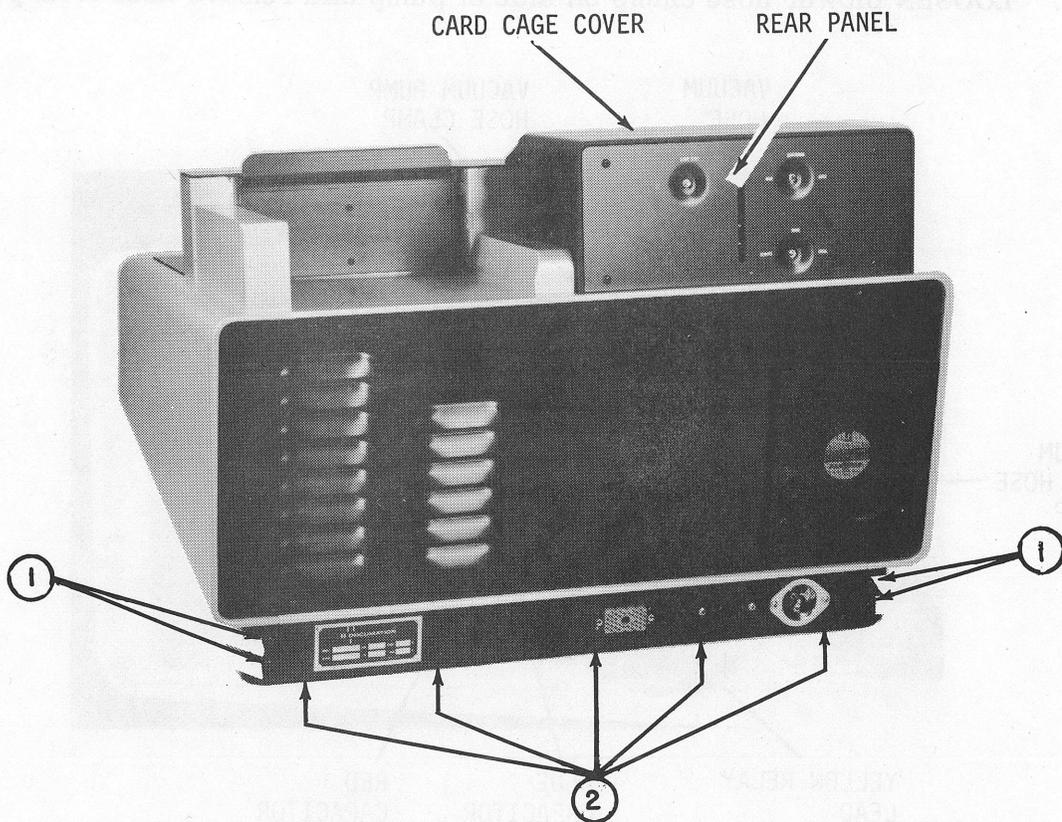

Figure 6-15. Removal of Rear Subframe Panel
- a. Using a Phillips screwdriver, remove four screws from rear subframe panel, (1), figure 6-15.
- b. Remove five screws (2) from bottom of baseplate retaining rear subframe panel.